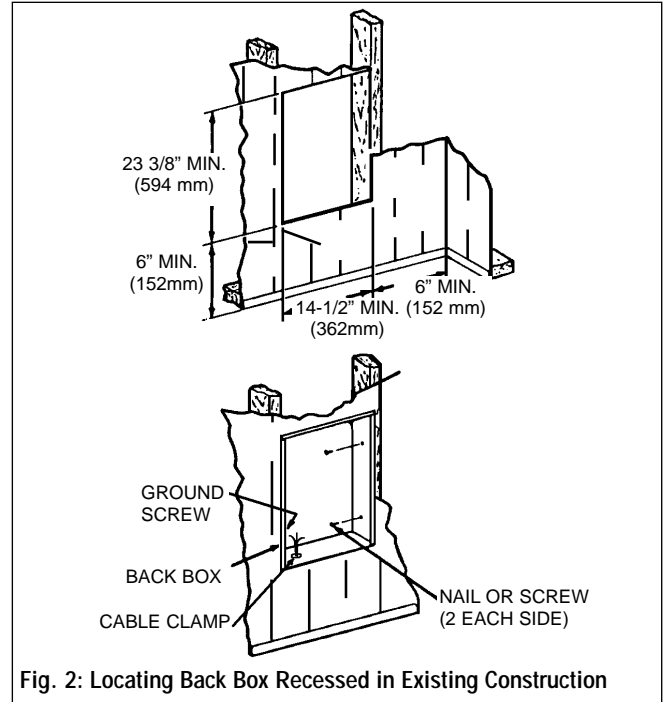

Fig. 2: Locating Back Box Recessed in Existing Construction
1. Provide a wall opening 14-1/2" (362mm) wide by 23-3/8" (594mm) high at the desired mounting height, but no closer than 6" (152mm) from floor and adjacent walls (See Figure 2) and 18" (458mm) to the ceiling.